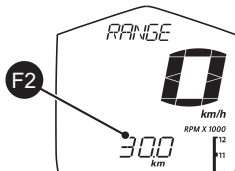

Fig. 08
- Short-press the 'SET' button (E, Fig. 08), repeatedly until the desired menu is displayed (ref. Fig. 08 for possible menu display)
- Long press the 'SET' button (E, Fig. 08) to reset the value when the menu is in 'Mileage' mode.
- Long press the 'SET' button (E, Fig. 08) to reset the value when the menu is in 'T Fuel' mode.
- Long press the 'SET' button (E, Fig. 08) to reset the value when the menu is in particular trip mode.
- Press the 'SET' button (E, Fig. 08) to reset the value when the menu is in 'HI-Spd' mode.
- Long press the 'SET' button (E, Fig. 08) to reset the value when the menu is in 'AV-Spd' mode.
- Toggle to 'OVRSPd' mode and long press the 'SET' button (E, Fig. 08) until the speed limit digits are flashing.
- Release and short press the 'SET' button (E, Fig. 08) again till the desired speed limit is displayed or OFF condition is obtained.
- Long press the 'SET' button (E, Fig. 08) to set the speed or to switch OFF.
- User can reset and record the new time if required by long pressing the 'SET' button (E, Fig. 08) when the menu is in '0-60' mode.
- User can reset and record the new trip time if required. Long press the 'SET' button (E, Fig. 08) to reset the value when the menu is in 'TrTime' mode.
- Toggle to lap timer mode and long press the 'SET' button (E, Fig. 08) to enter lap timer.
- Either press pass-by switch or short press the 'SET' button (E, Fig. 08) to start and stop the lap timer.
- When the lap timer is active, each time either the pass-by switch or the 'SET' button (E, Fig. 08) is pressed, the display will show the present lap time for 3 seconds and moves to next lap automatically.
- Long press the 'SET' button (E, Fig. 08) again to come out of lap timer function.